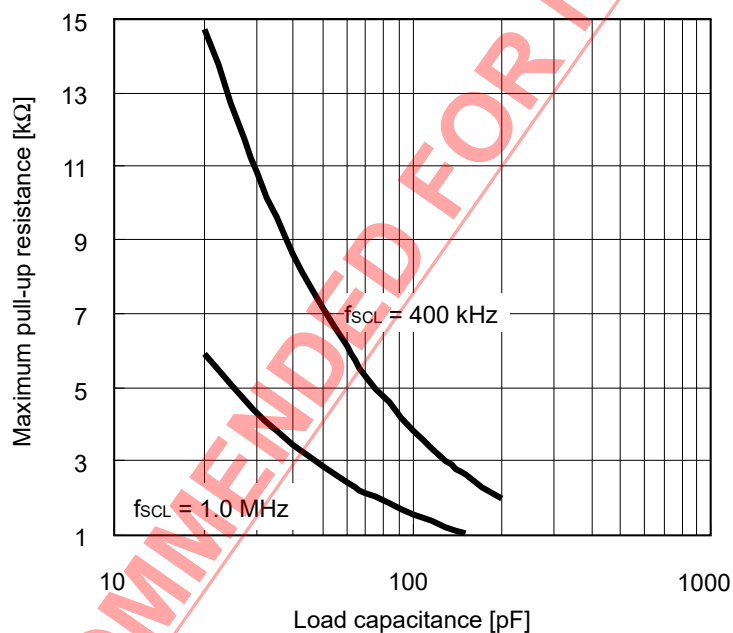

Figure 9 Output Load
- \*1. Since the output form of the SDA pin is Nch open-drain output, the SDA output delay time is determined by the values of the load resistance and load capacitance outside the IC. **Figure 9** shows the relationship between the output load values.